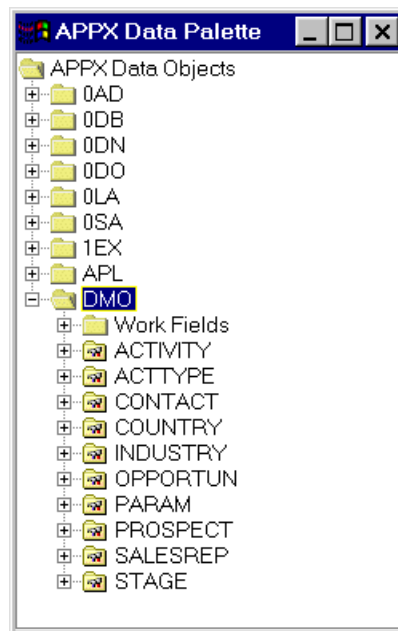

Figure E3.14 – APPX Data Palette - Files
- Click on the "+" symbol to the left of the **DMO** folder icon (or double-click on DMO) to open the **DMO** folder. A list of all of the files in the DMO application is displayed as shown in *Figure E3.14* below.